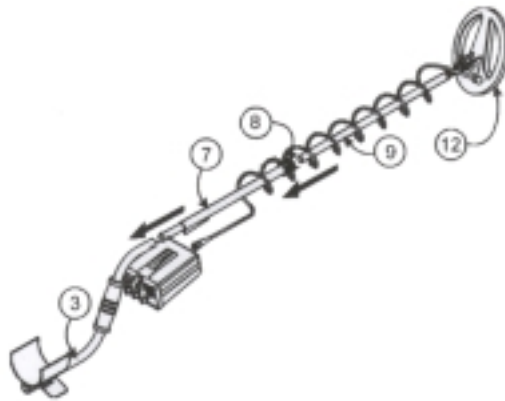

Figure 3-*Completing the shaft assembly*
- a) Slide the intermediate shaft (7) into the upper shaft (3). The black "V" clip (6) must be facing down along the foam handgrip section of the upper shaft (see figures 3 & 4).